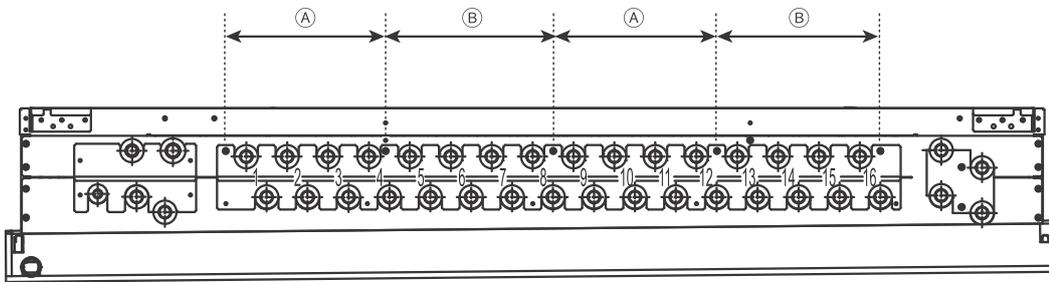

Fig. 9-4-2
- When connecting Joint Pipe Kits to HBC ports, the branched sides of the Joint Pipe Kits cannot be connected to combinations of ports "4 and 5," "8 and 9," or "12 and 13." (See Fig. 9-4-2.)
- HBC controller has two pumps. Each pump can accommodate the capacity of indoor units equivalent to W(P)175. Make sure that the total capacity of the indoor units connected to "ports 1 through 4 and 9 through 12" or "5 through 8 and 13 through 16" will not exceed W(P)175. (See Fig. 9-4-2.)
(1) Refrigerant pipe between outdoor unit and HBC controller (A, A₁, A₂, and A₃)